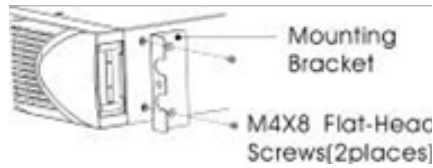

Figure 3 - Installing the Mounting Brackets
- i) Align the mounting brackets with the screw holes on each side of the UPS and fix with the supplied M4×8 flat-head screws(see Figure 3)